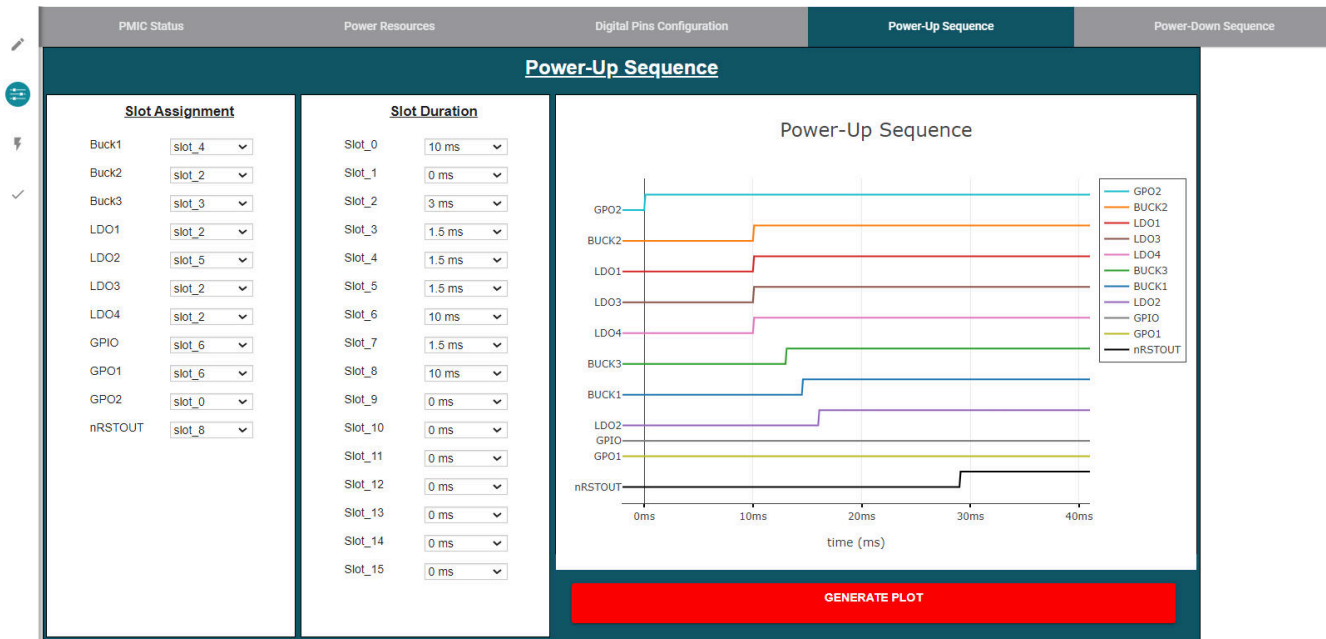

Figure 4-6. Sequence Configuration
- Figure 4-6 shows the settings to be changed when using the TPS65219-GUI